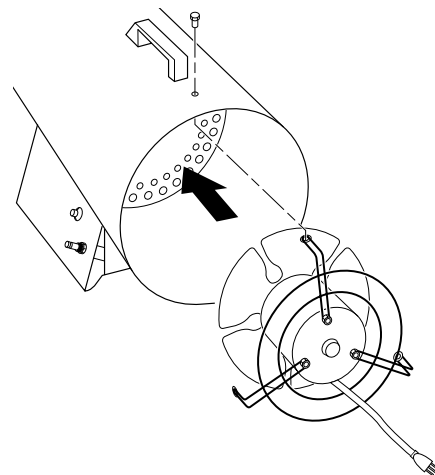

**Figure 9 - Removing or Attaching Fan Guard from Motor**
5. Remove three nuts that attach fan guard to motor using nut-driver. Remove fan guard from motor (See Figure 9).
7. Attach fan guard to new motor using three nuts. When attaching fan guard to motor, you must position power cord as shown in Figure 9. Tighten nuts firmly.